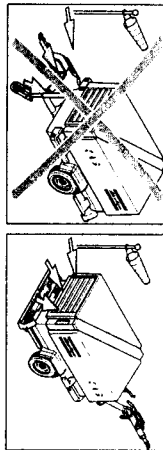

Fig. 3.4 Rear-end of compressor upwind
Apply parking brake by pulling parking brake handle (3) upwards. Place the compressor as level as possible; however, it can be operated temporarily in an out-of-level position not exceeding 15°. If the compressor is parked on sloping ground, immobilise the compressor by placing wheel chocks (available as option) in front of or behind the wheels. Locate the rear-end of the compressor upwind. (See Fig. 3.4), away from contaminated wind-streams and walls. Avoid recirculation of exhaust air from the engine. This causes overheating and engine power decrease.